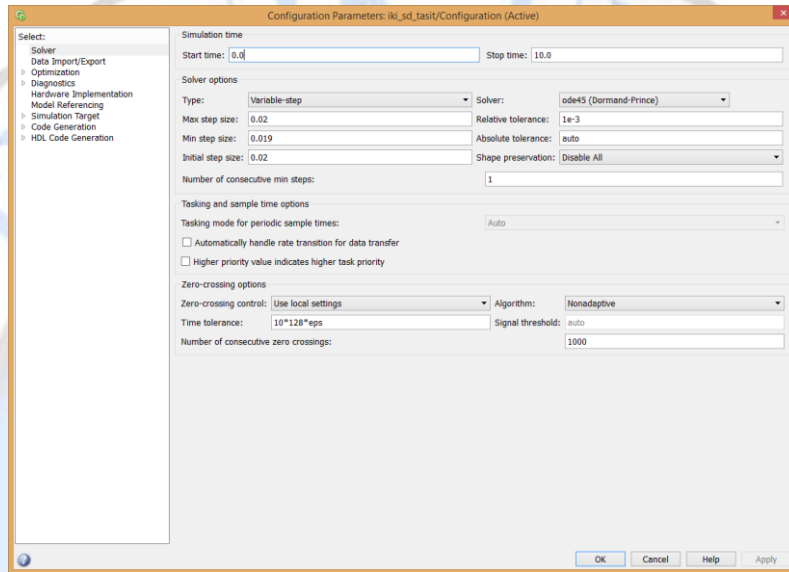

Figure 1
4. In a simulink model window, click the Model Configuration Parameters in the Simulation tab and set max step size and min step size as 0.02 and 0.019, respectively for variable step solver, as shown in Figure 1.